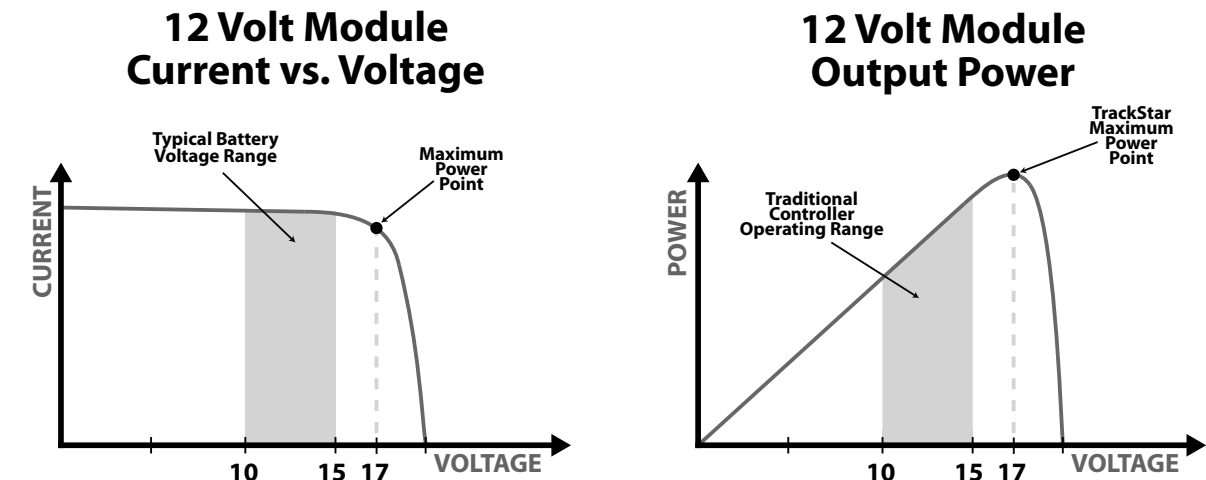

Figure 4-1. Nominal 12 Volt Solar Module I-V curve and output power graph.
Traditional controllers connect the solar module directly to the battery when recharging. This requires that the solar module operate in a voltage range that is usually below the module's V_{mp} . In a 12 Volt system for example, the battery voltage may range from 10 - 15 Vdc, but the module's V_{mp} is typically around 16 or 17 Volts. Figure 4-1 shows typical current vs. voltage and power output curves for a nominal 12 Volt off-grid module.
The array V_{mp} is the voltage where the product of output current and voltage (Amps x Volts) is greatest, which falls on the “knee” of the solar module I-V curve as shown on the left in Figure 4-1.
The TriStar MPPT 150V provides seven (7) standard battery charging settings that are selectable with the settings DIP switches (see Figure 4.1 above). These standard charging settings are suitable for lead-acid batteries ranging from sealed (gel, AGM, maintenance-free) to Flooded and L-16 cells. In addition, an 8th charging setting provides for custom set-points using MSView™ PC software.